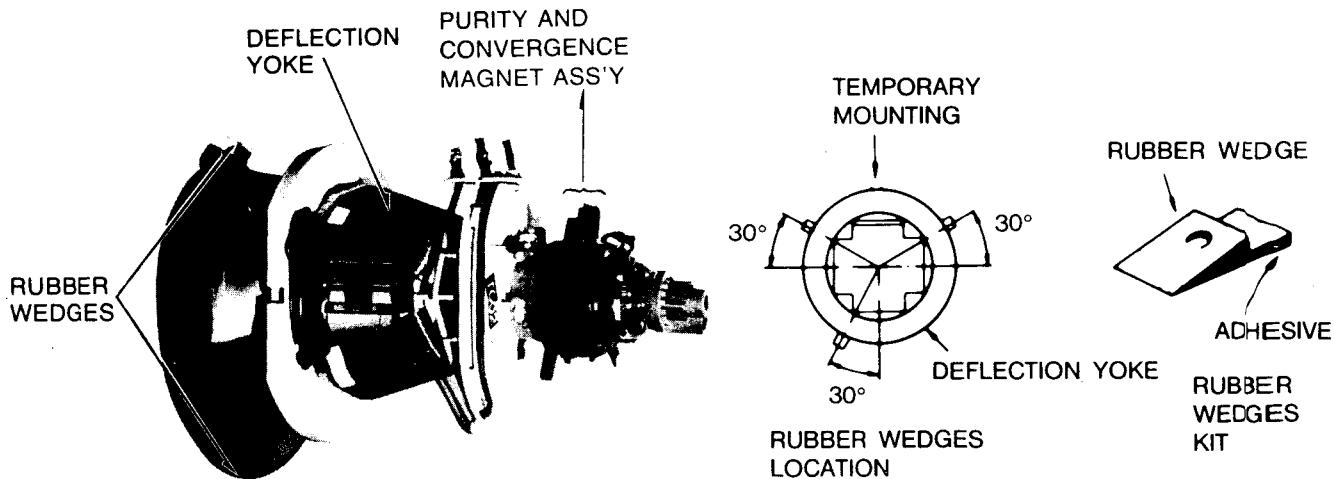

Figure 8
CAUTION: Convergence and Purity have been factory aligned. Do not attempt to tamper with these alignments. However, the effects of adjacent receiver components, or replacement of picture tube or deflection yoke may require the need to readjust purity and convergence. Convergence magnet assembly and rubber wedges need mechanical positioning following the figure 8. Before attempting any convergence adjustments this receiver should be operated for at least fifteen minutes. If adjustment is required the adjustments should be made in the following sequence.
2. Adjust DY to obtain a better convergence in the circumference by orbital movement of the front of the yoke, then secure the DY in appropriate position by placing the wedges as illustrated in figure 8. Tighten screw holding the DY. Stick 3 adhesive tapes on wedges as shown in figure 8.